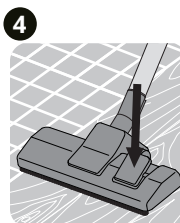

Figure 4
4. For hard floor cleaning, use the floor tool with switch position as shown in figure 4.